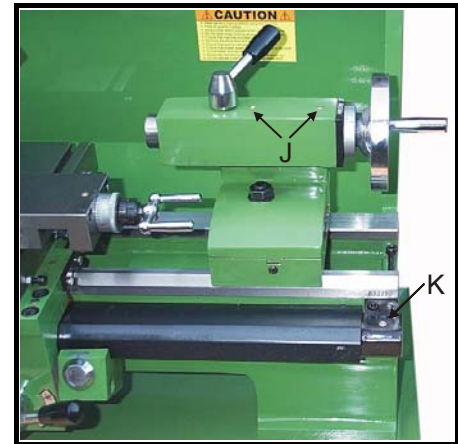

Fig. 8
6. **Tailstock** - Lubricate two oil cups (J, Fig. 8) with 20W machine oil once daily.
7. **Leadscrew** - Lubricate one oil cup (K, Fig. 8) and two oil cups (L, Fig. 4) with 20W machine oil once daily.